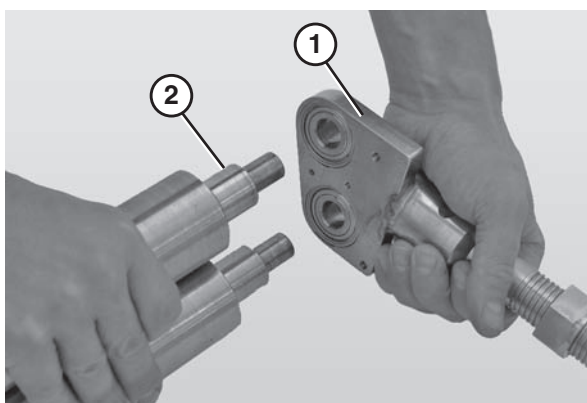

Figure 86
6. Slide the nose bar shafts (**Figure 86, item 1**) off the nose bar spindles (**Figure 86, item 2**).